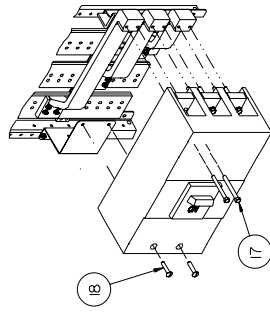

Figure 7
7. Reference fig. 7 - Install an VL N Frame breaker. For a Branch Breaker application, insert two 5/16-18 X 1-3/8" Thread Forming Screws (item 17) through each of the three contacts on the line side of the Breaker and into the 0.284" diameter holes at the end of the three Phase Connectors. Insert two 1/4-20 X 1-1/2" Thread Forming Screws (item 18) into the two 0.69" diameter holes toward the rear end of the Breaker and into the two 0.228" diameter holes in the Breaker Mounting Bracket (item 9) and tighten. Torque all hardware as specified on the rear of the deadfront.